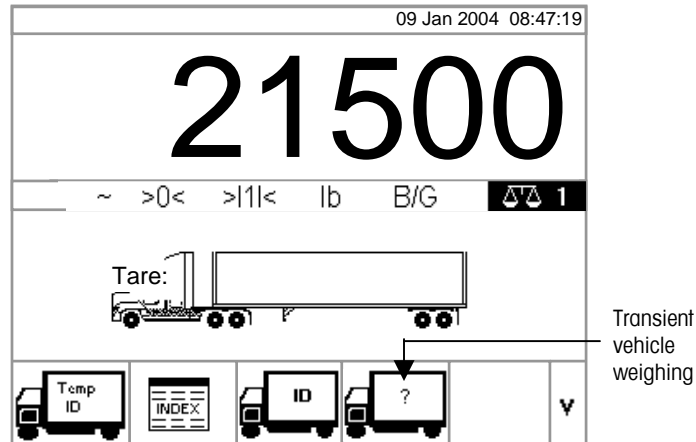

Figure 2-9: Default Weight Screen
1. Once the vehicle is on the scale, press the TRANSIENT VEHICLE WEIGHING softkey (see Figure 2-9).